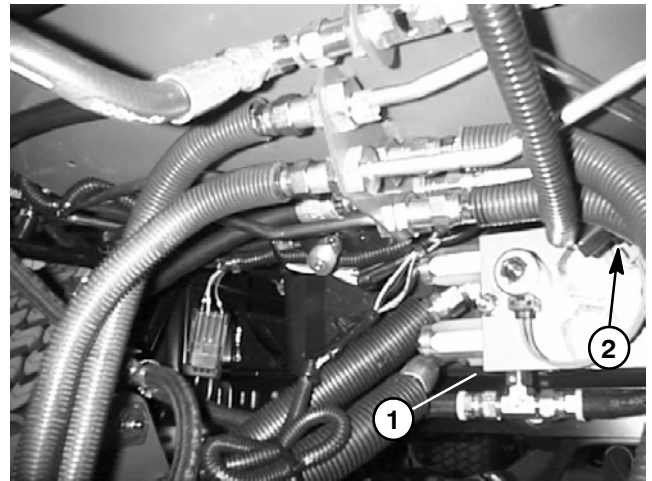

Figure 22
3. Install test pressure gauge with hydraulic hose attached to deck manifold test port for the deck to be tested (Fig. 22, 23, and 24).